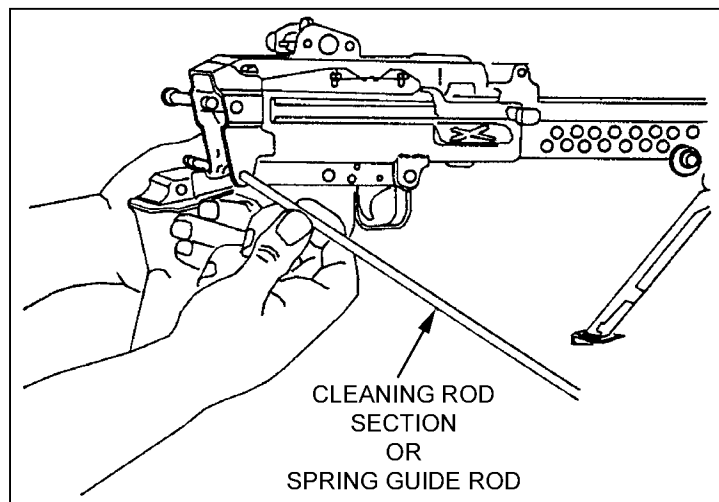

Figure 1-16. Removal of the buttstock and buffer assembly.
- d. **Removing the Buttstock and Buffer Assembly Group.** To remove the buttstock and buffer assembly (Figure 1-16, page 1-15), use a cartridge or the spring guide rod to push the lowermost retaining pin on the rear of the receiver to the left. It is a captured pin; it is not removable. Remove the buttstock and shoulder assembly by pulling them rearward, while supporting the trigger mechanism.